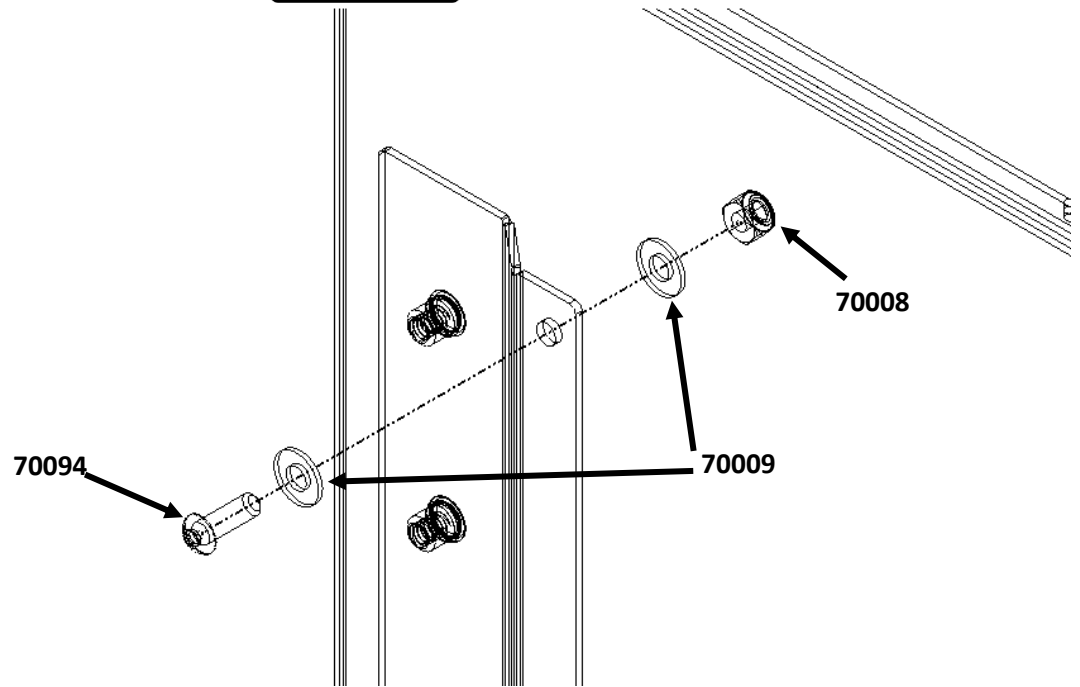

Figure 6: Mounting Hardware Assembly
- Using the $\frac{1}{4}$ "-20 x $\frac{3}{4}$ " button head screws [70094], $\frac{1}{4}$ " x $\frac{5}{8}$ " flat washer [70009] and the $\frac{1}{4}$ "-20 nylock nuts [70008], secure the rails to the box through the holes previously drilled. Don't forget to apply a generous amount of anti-seize to these bolts/nuts. See Figure 6 below for proper assembly of the mounting hardware.